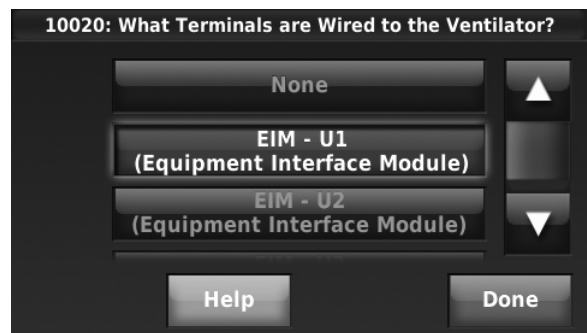

Fig. 249.
2. Select the terminals wired to the Ventilator (or Fresh Air Damper). See Fig. 249.